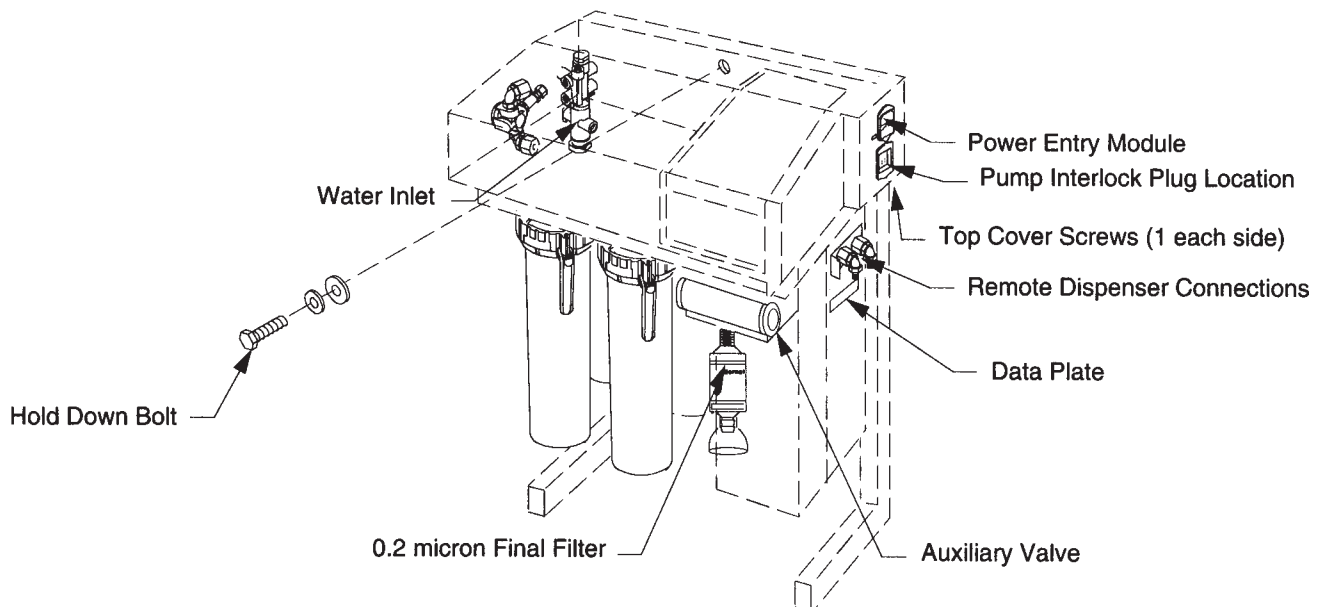

Figure 3 NANOpure Inlet and Outlets
1. Remove the two screws securing the top cover to the NANOpure. Remove the pump interlock plug (see Figure 3 for location). Slide the top cover off away from the NANOpure. Familiarize yourself with various components and install any optional equipment, i.e. inlet cell, pressure or float switch. See appropriate section for instructions.
2. Remove the hold down bolt securing the NANOpure to the wall bracket. It is located on the center of the back wall inside the NANOpure cabinet. (Figure 3)
7. Install the front cover by sliding it forward. Ensure the pins on the cover align with the holes on the forward cabinet section. Install the cover screws and the pump interlock plug removed in step 1. (Figure 3).
11. Connect the Remote Dispenser tubing to NANOpure at elbow connections on the NANOpure (Figure 3). It is not important which nut on the dispenser is attached to which connector on the NANOpure.